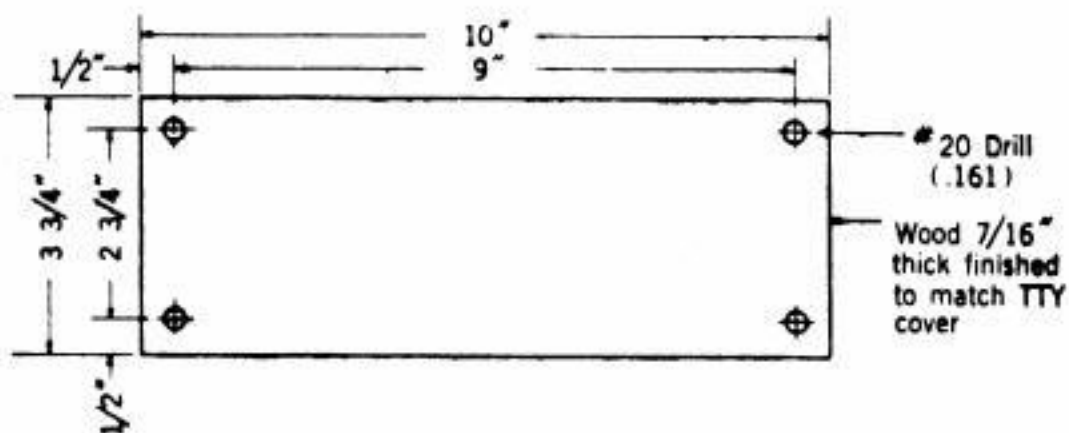

FIG. 2
- 1 - TP77778 wooden filler or substitute per Fig. 2 (Not required if the 14A copy holder is the older style that included a TP77778 wooden filler in place of the TP94617 copy holder spacer. Note: The TP77778 filler is no longer manufactured.)
3.08 Install the modified 14A copy holder on the cover (using the tapped holes made in 3.07) over the mounting plate of the 15A copy holder by using the four TP1291 screws furnished with 14A copy holder, and the TP77778 wooden filler or substitute per Fig. 2. Discard the TP94617 copy holder spacer if the 14A copy holder was equipped with this part.